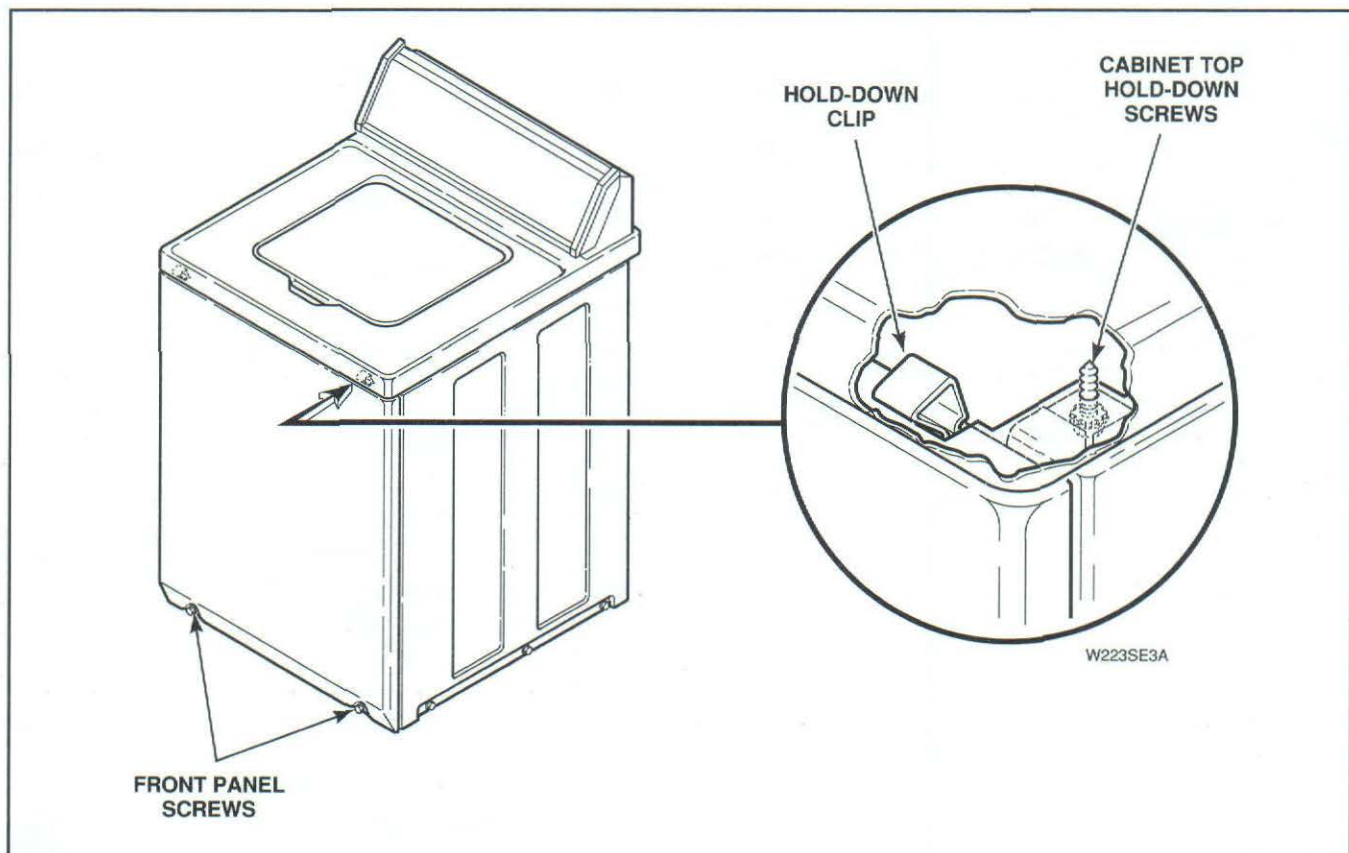

Figure 26
- Remove two screws from bottom edge of front panel, *Figure 26*.
- Pull bottom of panel away from washer until hold-down clips (located on top flange of panel) disengage from slots in cabinet top, *Figure 26*.
- Remove two cabinet top hold-down screws, *Figure 26*.